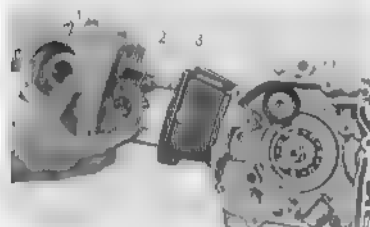

Fig. 3.38 Assembling the cylinder head
3. Install the cylinder head. (Fig. 3.38)